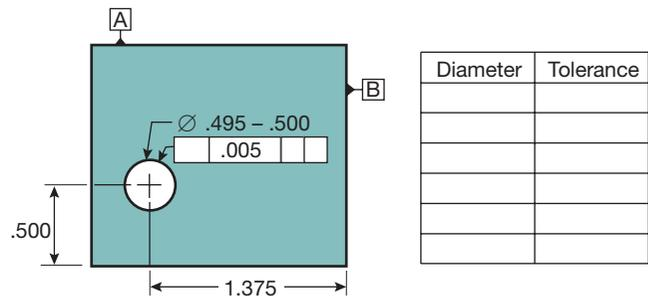

Figure A-105 Drawing for question 2.
2. Complete the feature control frame for a location tolerance. The tolerance should be related to datum A and B and should be at maximum material condition. Complete the tolerance table shown in Figure A-105.